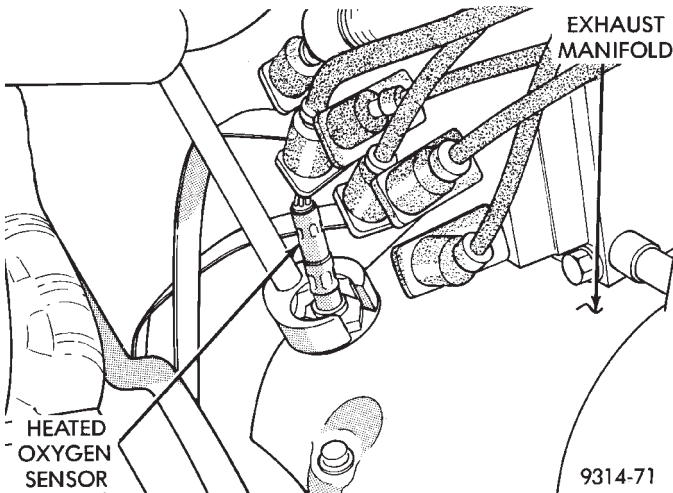

Fig. 8 Heated Oxygen Sensor Removal/Installation—3.5L Engine
(1) To access the heated oxygen sensor on the right exhaust manifold, remove the air cleaner tube.
(2) Disconnect the heated oxygen sensor electrical sensor.
(3) Use a crow-foot wrench or tool C-4907 to remove oxygen sensor (Fig. 8).